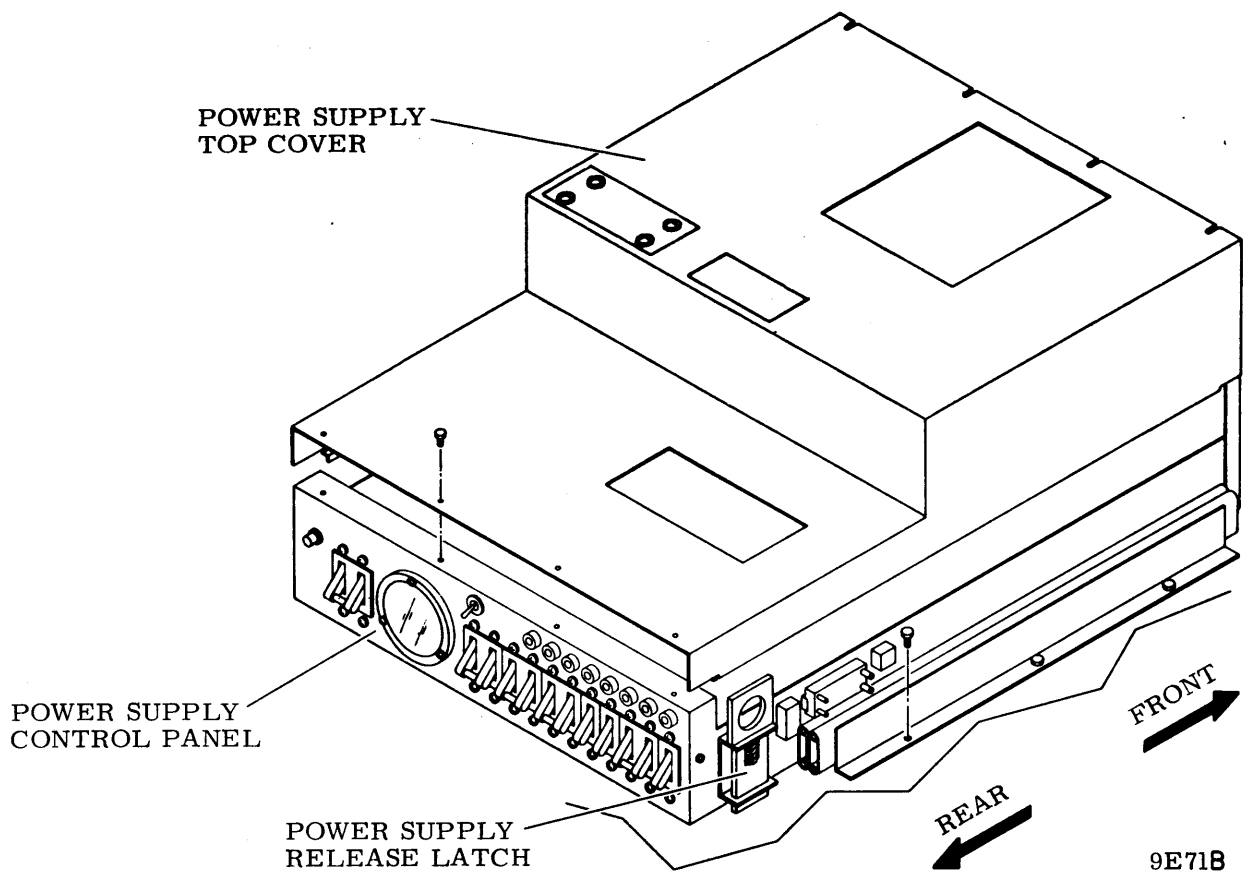
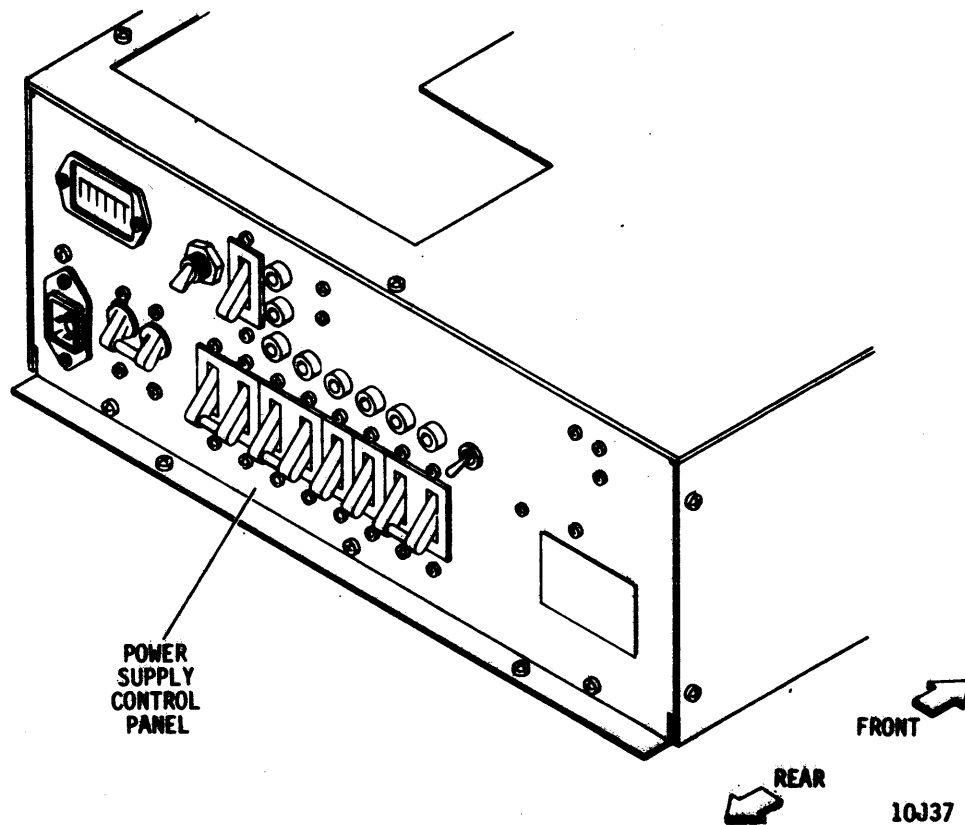

Figure 2-9. Power Supply (NON-VDE)
Figure 2-10. Power Supply (VDE)
Two types of power supplies are used in the drives. Their physical appearance and mounting methods differ significantly. The power supply shown in figure 2-9 is used on all Non-VDE units. The power supply shown in figure 2-10 is used on all VDE units.
2. Lift power supply release latch (refer to figure 2-9) and pull power supply out to maintenance position.
When the power supply is in the maintenance position, the top cover can be removed to provide access to the inside of the supply. The top cover is removed by first removing the screws at the rear of the cover (refer to figure 2-9) then loosening the screws at the front of the cover and slipping the cover off.
The power supply, shown in figure 2-10, is mounted directly to the cabinet base. A lip at the back edge of the power supply slides under a bracket secured to the cabinet base. Two screws and lockwashers secure the front edge of the power supply to the cabinet base.